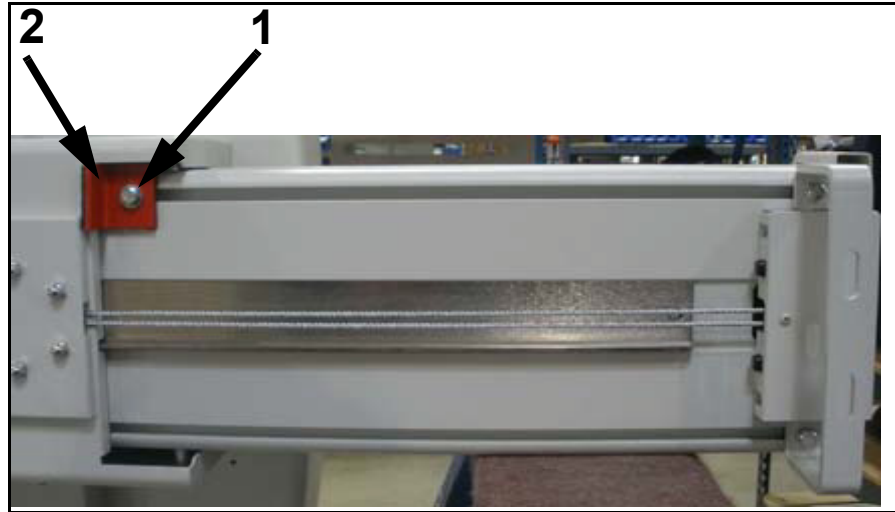

Figure 2-13. Shipping bracket
- 23** Unscrew the bracket screw (1 in Figure 2-13) and remove the shipping bracket (2).